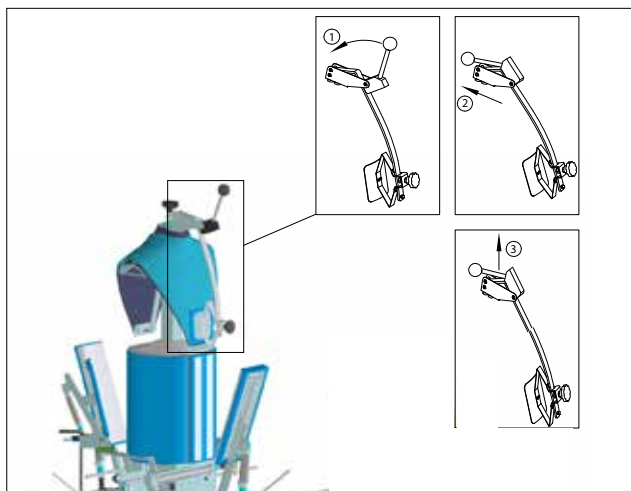

Figure 4.4 - Machine parts
3. Turn on main power switch (5 - Figure 4.4)
Refer to Figure 4.4 if not otherwise specified